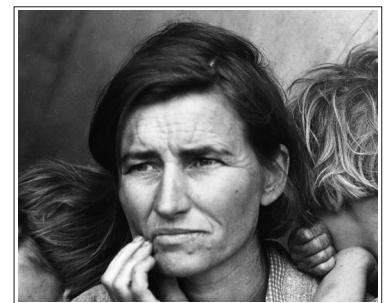
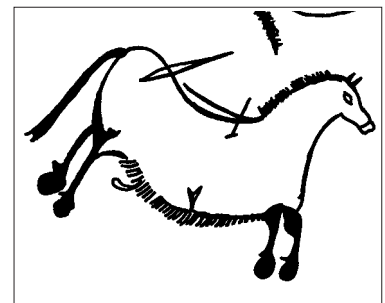

Fig. 1.1
Fig. 1.2
Scans (or bitmap files) are images composed of pixels—the smallest building blocks of bitmapped art. The figures on the right show two basic types of scans. Figure 1.1 is a continuous-tone scan, and figure 1.2 is a bi-tonal scan.
**CONTINUOUS-TONE SCANS (8-BIT)** In continuous-tone scans, each pixel is one of 256 shades of gray, ranging from pure white to solid black. Because each pixel can vary in tonality, transitions from light to dark are smooth and realistic—as long as the **RESOLUTION** is high enough. Photographs and drawings with fine transitions between light and dark, such as figure 1.1, are ideal candidates for continuous-tone or 8-bit scanning.
**BI-TONAL SCANS (1-BIT)** In bi-tonal scans, each pixel can be only one of two values: 100% black or 100% white. Images that lack gray values, such as figure 1.2, are good candidates for bi-tonal scanning.
Figure 1.1: *Migrant Mother* by Dorothea Lange. Courtesy of the U.S. Farm Security Administration Collection, Library of Congress. Figure 1.2: Drawing by R. Dale Guthrie.